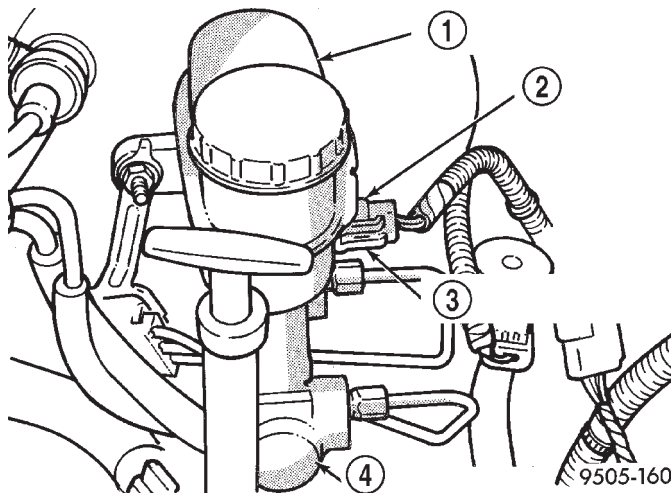

Fig. 59 Master Cylinder Fluid Level Sensor
(1) Remove wiring harness connector from brake fluid reservoir level sensor (Fig. 59).